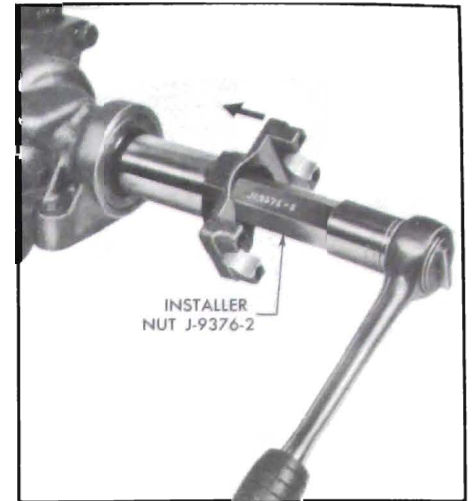

Figure 4-38—Installing Front Companion Flange
18. Slide front companion flange part way on output shaft. Thread special screw through nut J-9376-2, then thread screw into output shaft till it bottoms. Drive flange onto shaft by turning nut J-9376-2. Remove tool and install regular bolt. Torque to 40 ft. lbs. See Figure 4-38.